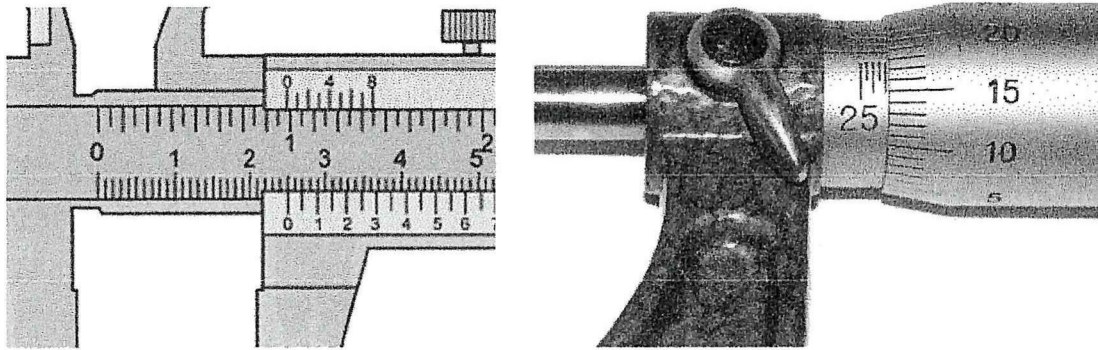

Figure Q3
- (a) Solve the measurement from Figure Q3. (4 marks)